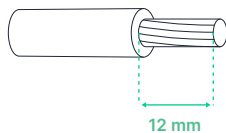

Fig. 7 - Stripping insulation length for each of the 3-wires of the power supply cable
13. Strip 12mm of insulation for each of the 3-wires of the power supply cable. **(Fig. 7 - page 19)**